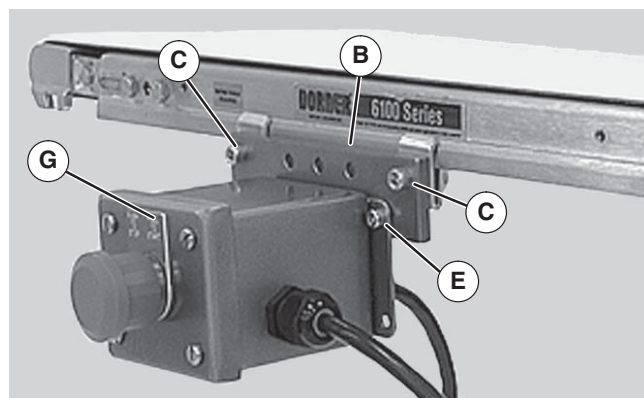

Figure 8
2. Attach Pushbutton Box (Figure 8, item G) to mounting plate (B) with screws (E).
3. Attach Pushbutton Box assembly (Figure 8, item G) with screws (C).